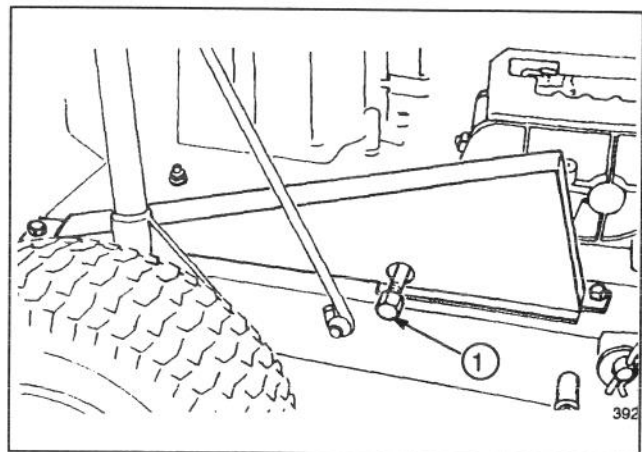

Figure 10
5. Remove the drain cap (Fig. 10).